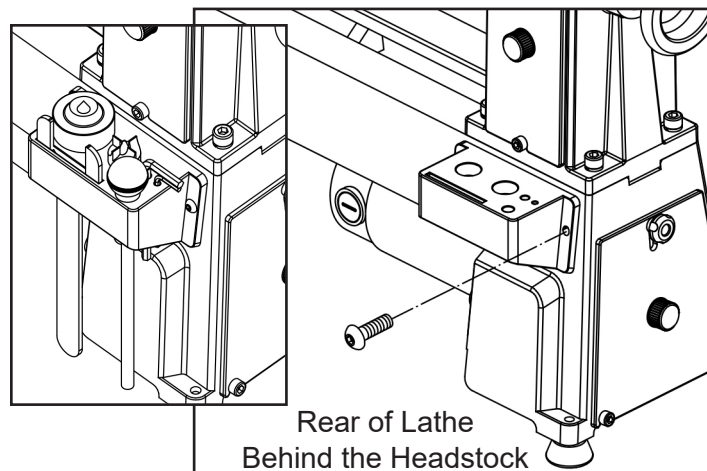

FIG. 2
2. Install the Tool Holder to the base with these two screws. FIG. 2.